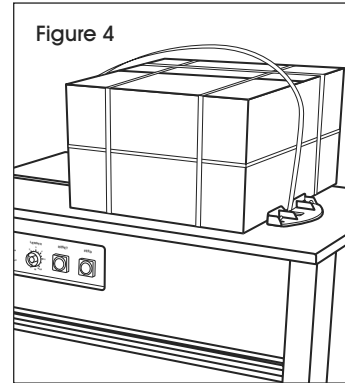

Figure 4
- a. Place package on the machine against the package guide. (See Figure 4)
Strapping not heat sealing.	1. Ensure the heater blade surface is clean. Dirty blades prevent strapping from sealing properly. 2. Use a Scotch-Brite™ pad to clean strap residue from top and bottom of heater blade. Lift blade assembly to unhook from two set screws to clean bottom of blade. (See Figure 4)  NOTE: Do not loosen set screws.